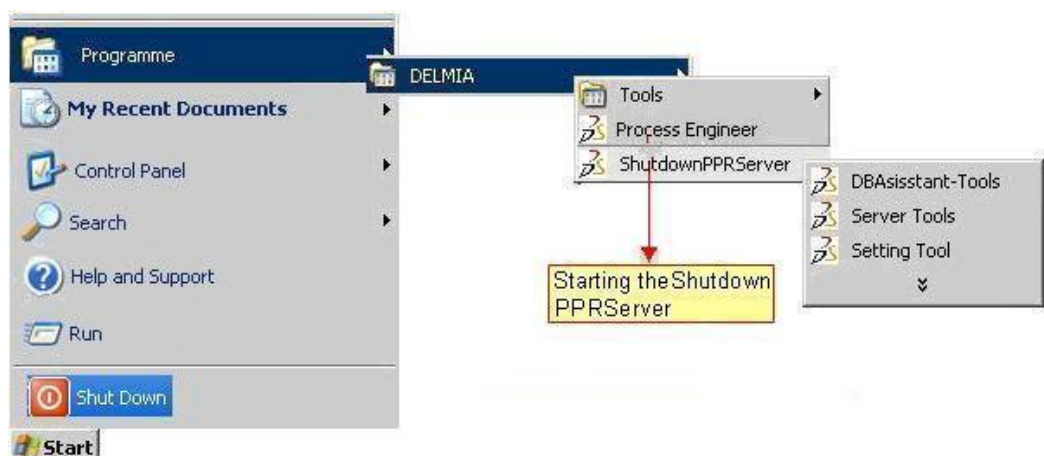

Figure 13: Executing ShutdownPPRServer
The original database condition must be restored after each program crash . Execute the **ShutdownPPRServer** program to ensure that all tasks that have caused the program crash are stopped. You can activate the **ShutdownPPRServer** program by using the start menu or the program icon on your desktop (Please refer to the Figure 13). To view the **ShutdownPPRServer** icon on your desktop link it to the desktop using the start menu.
- 1) Activate the **ShutdownPPRServer** or **ShutdownPPRClient** before restarting the program after a crash. Please refer to the Figure 13.